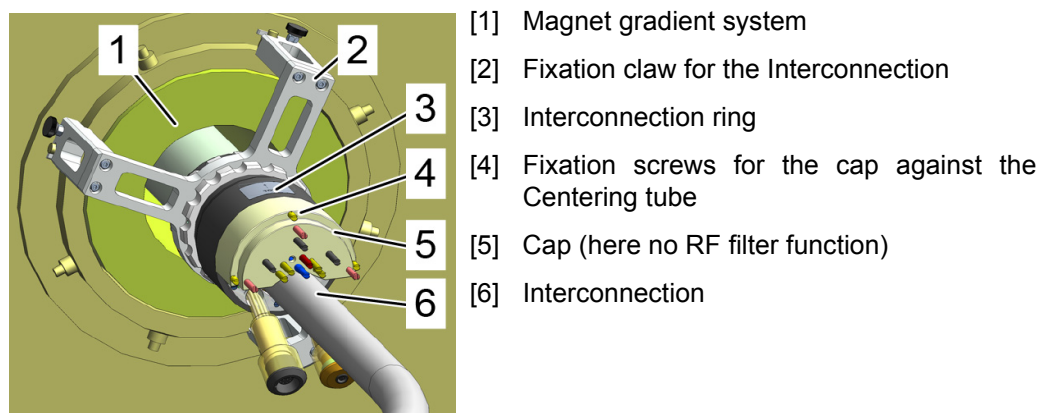

Figure 4.10: Tuning/Matching (T/M) system in installation without a CCM box.
Figure 4.10 shows the Centering tube mounted with a fixation claw (Figure 4.10 (2)) around the bore at the back of the magnet without touching the Gradient system (Figure 4.10 (1)) of the magnet. The T/M assembly can be pushed in until it reaches the stop position, the user will feel then the spring pressure.
Then the cap ((Figure 4.10 (5)), here no RF filter function) has to put on the end of the
Centering tube and the silver rods have to be tightend just inside the Centering tube. Then the cap has to be positioned and the blue cap rod has to be tightend. The Interconnection (Figure 4.10 (6)) and the connectors for bottom heater and Temperature Control unit are accessible.